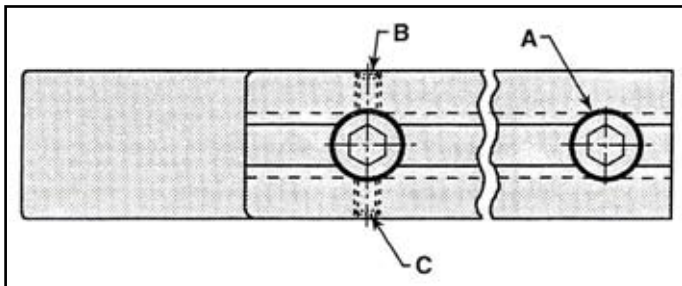
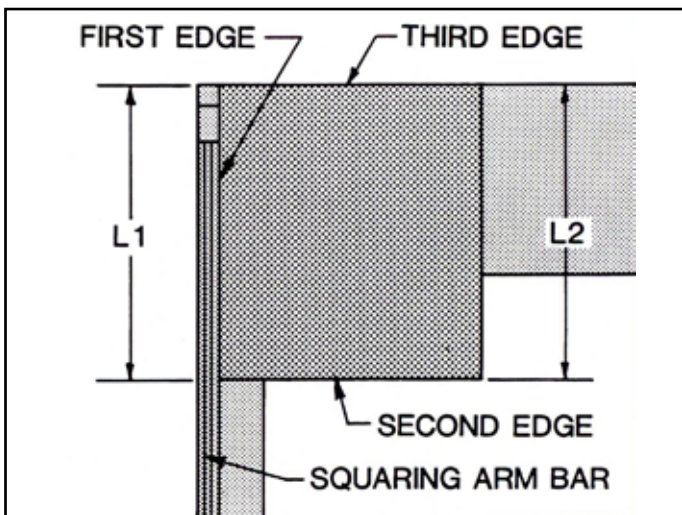
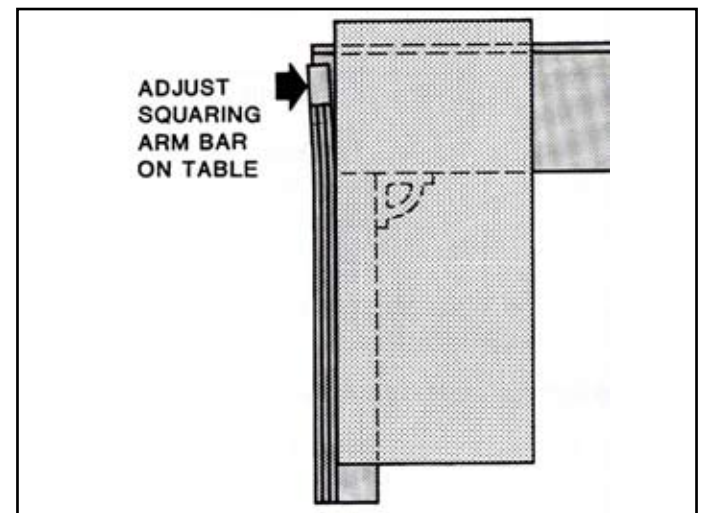

Figure 9-17 - Bar Adjusting Screws
Figure 9-18 - Fine Adjust Squaring Arm Bar
Figure 9-21 - Adjust Squaring Arm Bar
4. The sheet lays on table and against the squaring arm bar as shown in Figure 9-18,
- c. Measure the distances L1 and L2 shown in Figure 9-18 with a tape measure. If they are not the same length, loosen front socket head screw "A" in Figure 9-17 and either set screw "B" or "C". If L1 is longer, loosen screw "C" and tighten screw "B" to move the squaring arm bar towards the sheet. If L2 is longer, loosen screw "B" and tighten screw "C" to move squaring arm bar away from the sheet. Tighten screw "A" and either screw "B" or "C".
6. The sheet lays on the table and against the squaring arm bar as shown on Figure 9-21.
- a. Move the end of the squaring arm on the table to the left or right as shown on Figure 9-21. To adjust, loosen the socket head screw "A" (Figure 9-17) and either socket set screw "B" or "C" in the side of the squaring arm bar. Then use the opposite set screw ("B" or "C") to move the squaring arm bar flush with sheared edge of sheet. Tighten screw "A" and loosen set screw "B" or "C". Remove the full length sheet.